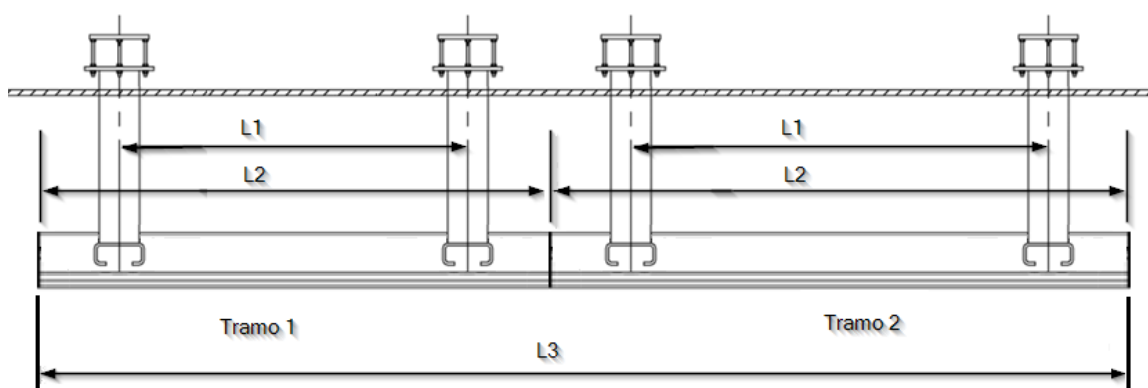

Fig. 5 Parts. Joining of two suspended headboard sections
A movable element that moves along a defined length within a section of ATLAS with one or two 38 mm diameter structural tubes on which other accessory elements can be supported. The tube may be positioned on the axis of rotation or on a trapezoid at a fixed distance. The distance between the tubes (L) can be 300mm, 500mm and 700mm. Figure 5 shows the variant with a 300mm and 700mm trapeze and the variant with the tube on the axis of rotation.
The example in figure 5 shows a technical rail assembly on the structural tubes (middle picture in figure 5) and two trays, one with an individual drawer unit (picture on the left in figure 5). The image on the right shows the trolley with a single tube on the axis of rotation.